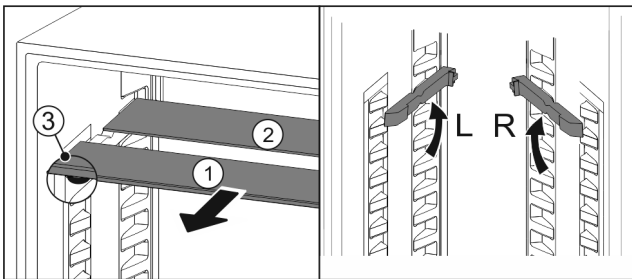

Fig. 195
- ▶ Pull the glass panels out Fig. 195 (1) from the front, one at a time.
- ▶ The glass panel Fig. 195 (1) and trim strip are at the front.
- ▶ The stops Fig. 195 (3) point down.